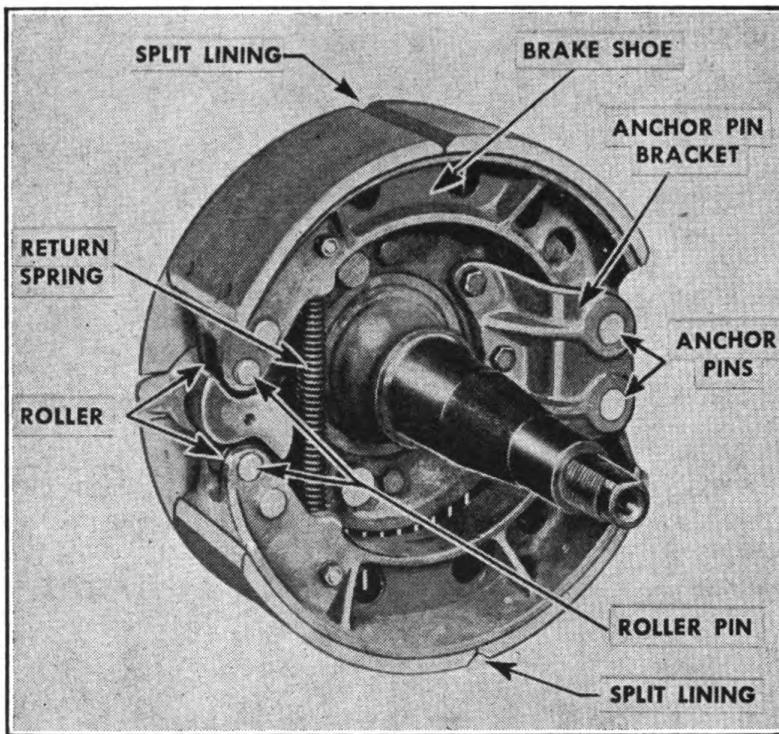

FIGURE 26. BRAKE ASSEMBLY.
6. BRAKE SHOES.—*a. Removal* (Fig. 26).—(1) Remove the three bolts holding the anchor pin bracket to the brake mounting plate.
(1) Drive out the old bushing.
(2) Press or drive in new. Drive new bushings in with care as a mushroomed or burred bushing will retard free movement of brake shoes, both in application and release. These bushings come reamed to proper dimensions. However, if reaming is necessary, ream to 1 1/8" dia.
c. Replacing brake shoe rollers (Fig. 26).—The brake shoe roller on each shoe is held in place by a shaft fastened by three heavy prick punch marks on each side. Roller shafts may be driven out and rollers replaced without removing the shoes from the assembly.